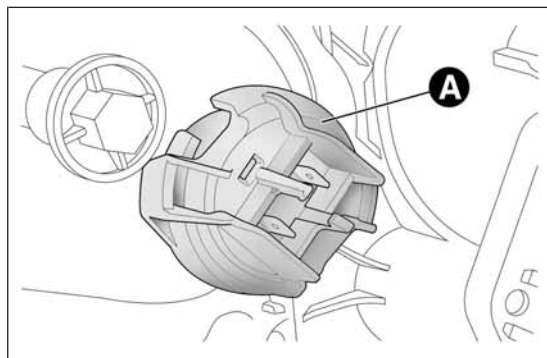

fig. 136
- ☐ remove cover A fig. 136 protecting the bulb;